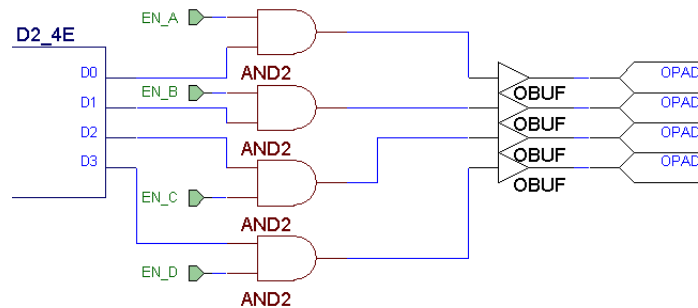

Figure 8.2: Selectively Enable/Disable Any of the Four Seven-Segment Displays.
- Add four AND gates between the four decoder outputs and the four enabling pads of the four seven-segment displays. The second input of these four AND gates is to be connected to four enabling signal to allow the user to selectively enable/disable any of the four seven-segment displays. See Figure 8.2.